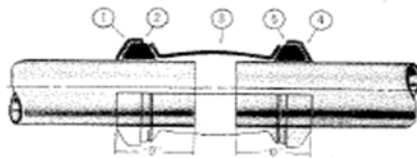
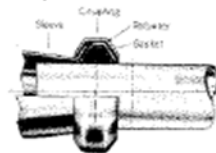

Figure 2
Figure 4
- d) Slide sleeve (3) to gasket (5) and move gasket (2) and retainer (1) into position as shown in Figure 2. Pipe must be inserted to proper depth ("D") into both gaskets as shown in Table 1.
- Install both V-couplings, encompassing the retainer, gasket and sleeve as shown in Figure 4. Do not tighten either coupling until the entire joint is assembled (See Figure 2). Tighten nuts to the torque specified in Table 2. Do not lubricate the nut or bolt before assembly. The gap method outlined in Table 3 may be used for standard gaskets only.